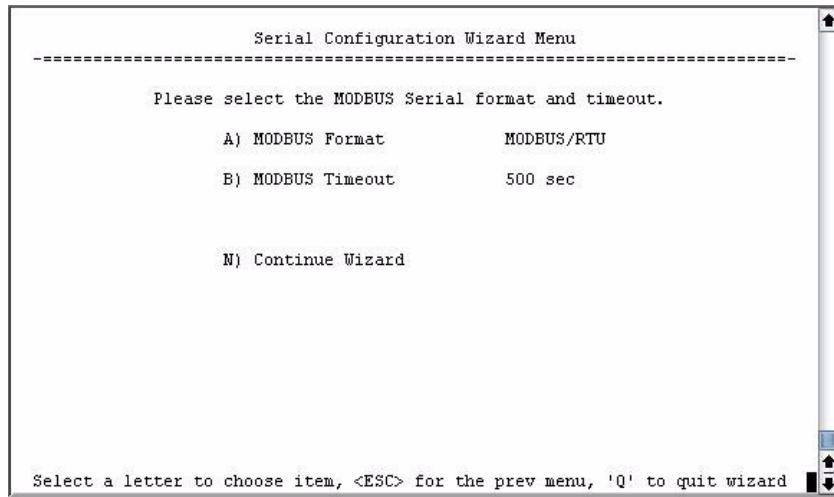

Figure 3-57. Choose Modbus Serial Format and Timeout Value
4. On the next screen (Figure 3-57), press **A** to change the Modbus serial format, then press the space bar to toggle between the available formats (**MODBUS/RTU** or **MODBUS/ASCII**). Press **B** to enter the Modbus serial timeout value in milliseconds. Press **N** to continue the wizard.